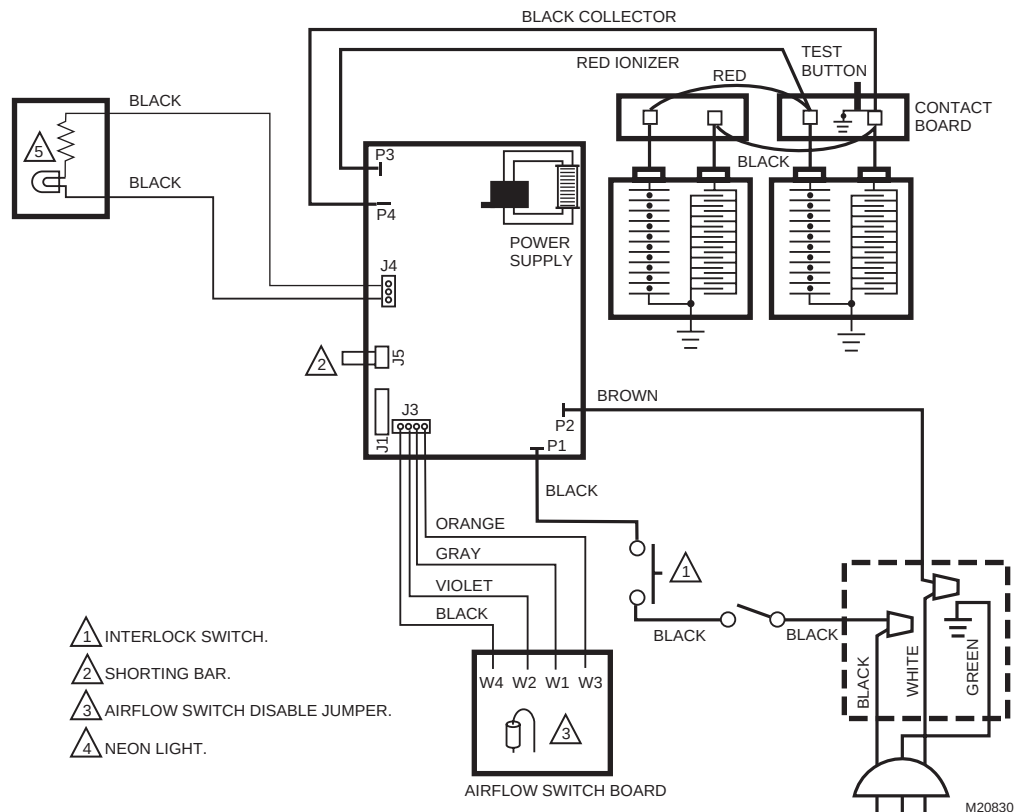

Fig. 9. Internal schematic for electronic air cleaner with W8600F.
- When the System fan comes on, the Air Flow Switch (AFS) senses the negative pressure in the duct and turns on the power supply. If power to the air cleaner is controlled by another switch, the AFS can be disabled by cutting the jumper on the back of the AFS circuit board. See Fig. 9.
- ❑ Plug the electronic air cleaner directly into the correct voltage and frequency outlet. See Fig. 9 for internal schematic. The air cleaner operates correctly with any fan when wired with conduit or plugged in.